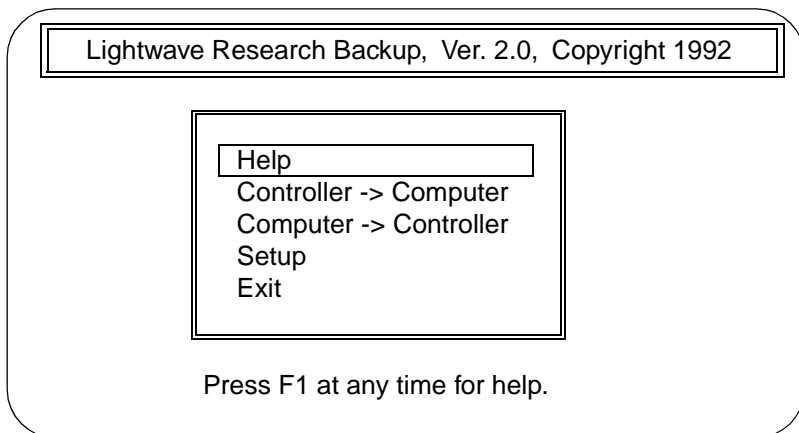

Figure 7-3. Lightwave Research Backup main menu.
6. The menu shows the currently-selected option in reverse video; in Figure 7-3, the selected option is **Help**.